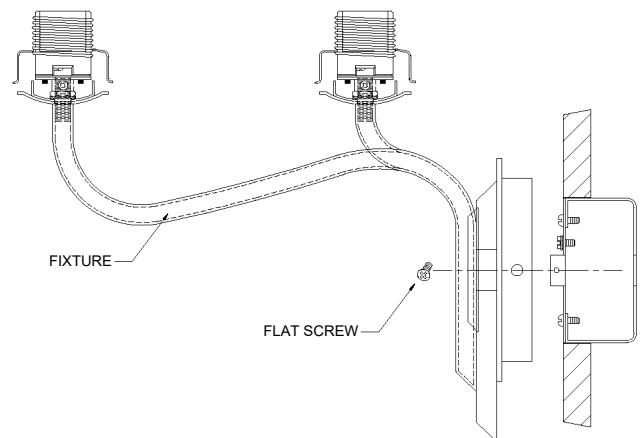

FIGURE-02
5. Reinstall the fixture to the mounting ring with wing and secure it with flathead screws (See Figure-02)